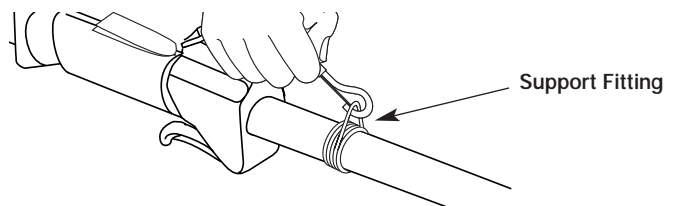

Figure 5
3. Put the harness on over head and onto shoulder. Snap it on to the support fitting. See Figure 5.